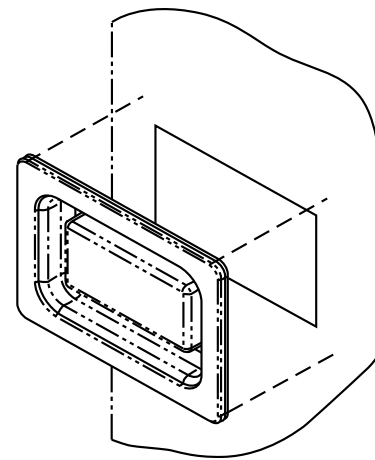

Fig. 4 – Installation of Window Bezel for Circuit Breaker Model Heater
4. Circuit breaker models require installing a window bezel in unit door to provide safe access to circuit breakers. The window bezel mounts on the outside of the blower door (Fig. 4).
- b. Remove adhesive backing from window bezel and from the outside. Insert the window through the rectangular hole and seat firmly on the door surface. Press firmly in place to seat the adhesive (Fig. 4).